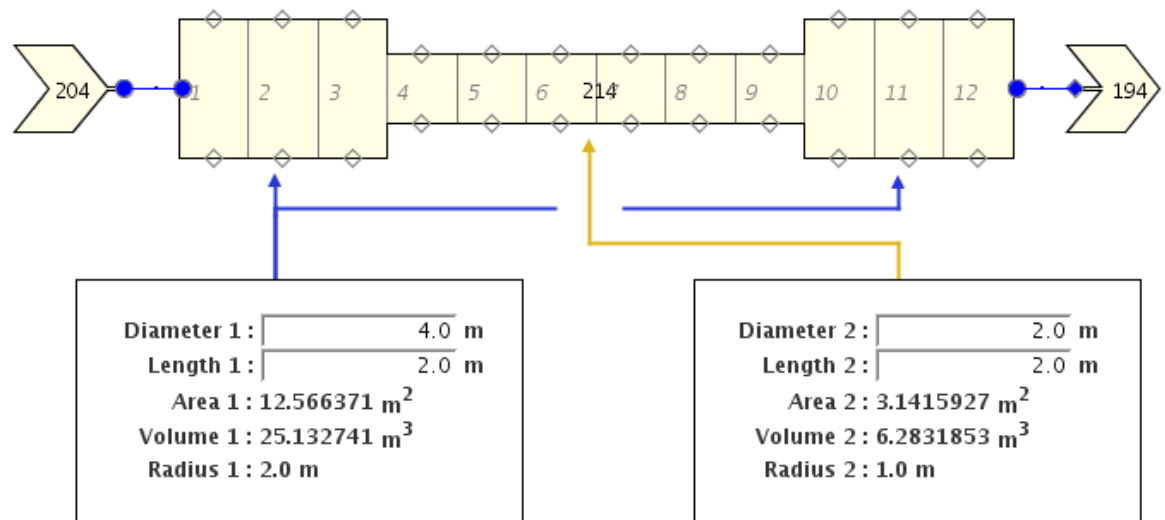

Figure 2.48. User Defined Numerics Example
Numerics Navigator node, etc.. These values are represented in a view as a **Drawn Numeric**. Drawn Numerics that correspond to integers and reals appear as a text label and optional text field (depending on the **Editable** option, described below) that displays the name of the variable, current value, and units if applicable (e.g. "Area 1" in Figure 2.48, “User Defined Numerics Example”). Booleans appear as check-boxes with a text label that displays the name of the numeric.
- **Editable** - This check-box item enables editing an input variable by entering a new value into the Drawn Numeric (e.g. "Diameter 1" in Figure 2.48, “User Defined Numerics Example” above). Entering a value into a Drawn Numeric and pressing **Enter** will change the value in the same way as editing the numeric properties directly.